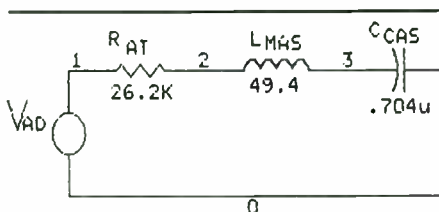

FIGURE 6: Infinite-baffle design data.
**Big Ones.** In an infinite-baffle enclosure, the speaker's front and back are effectively connected to an infinitely large enclosure and are thus shorted to ground, as the circuit in Fig. 6 shows. To analyze this enclosure, make a text file exactly like the one shown in Table 5 and name it INFINITE.CIR. Now run PSpice by typing PSPICE INFINITE at the DOS prompt.